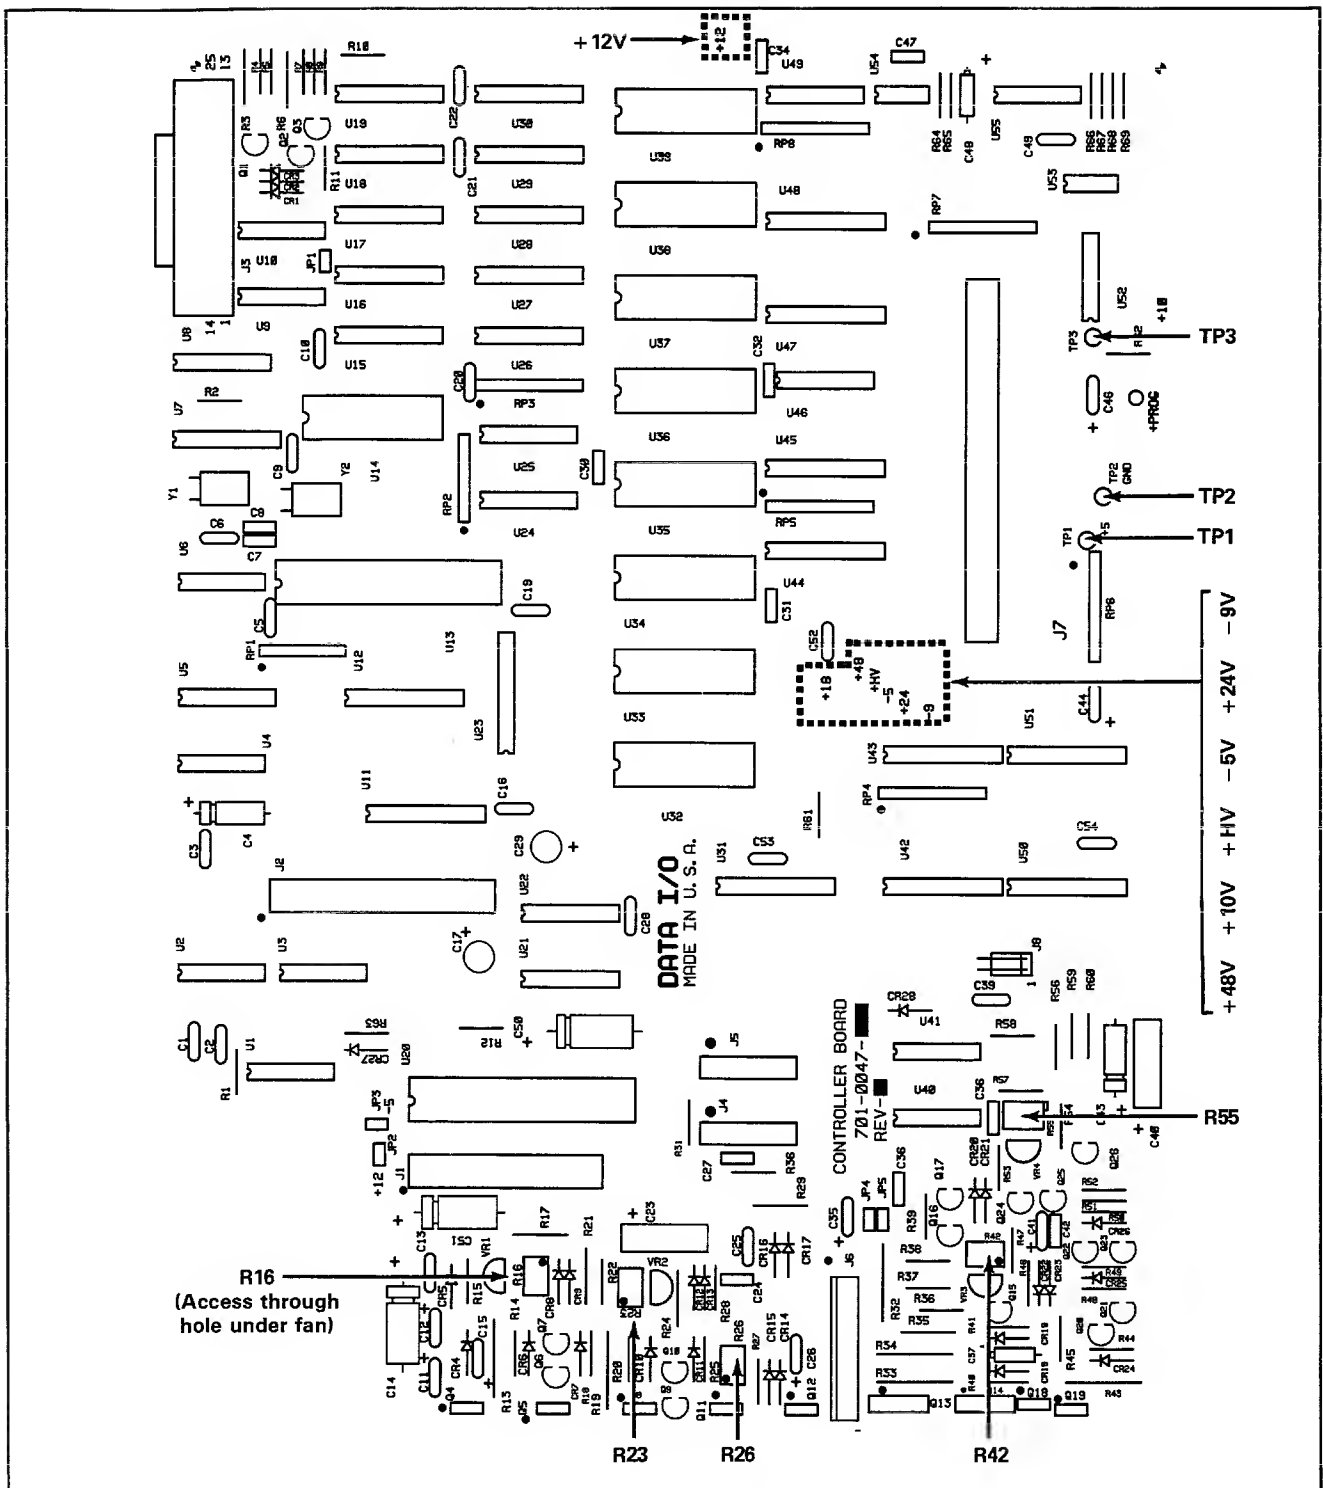

Figure 4-2. Power Supply Test and Adjustment Points
Table 4-1 lists the voltage ranges for the power supplies. Test points for these supplies are located both on the controller board (see figure 4-2) and on the calibration extender. The power supply voltages can be measured in either location.
The following procedures describe calibration set-up. Test points are shown in figure 4-2.
4. Connect your DVM to ground at TP2. See figure 4-2.
7. Measure the supplies at the test points shown in figure 4-2. Results should be within the ranges listed in table 4-1.
If all adjustments are within the specified range, no adjustment will be necessary. If the voltages fall outside the range, adjust them as follows. Adjustment points are shown in figure 4-2.
10. Adjust the supply (see figure 4-2 for potentiometer location) so that it corresponds to the correct voltage listed in table 4-1. If supply cannot be adjusted within the specified range, refer to subsection 4.4, Troubleshooting.